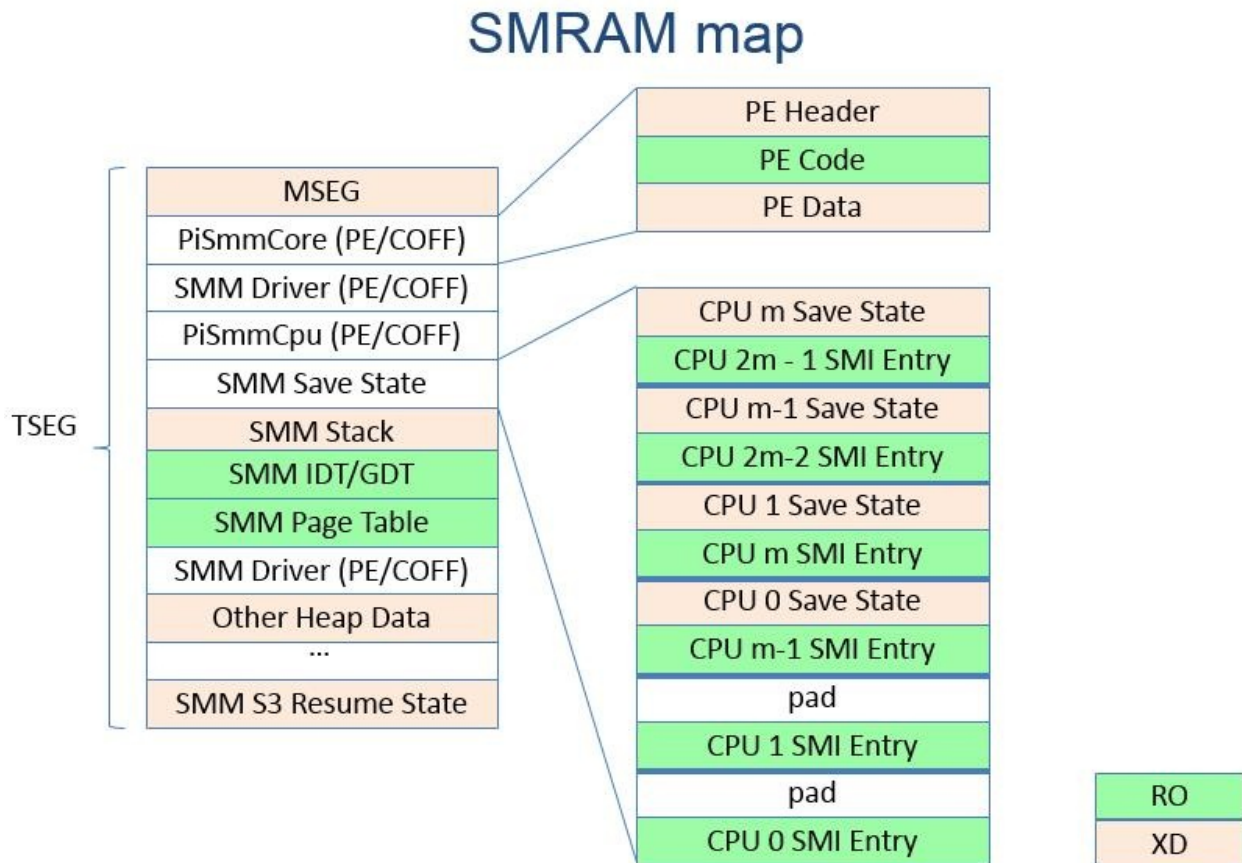

Figure 1 - SMRAM memory protection
Figure 1 - SMRAM memory protection
The SMM is an isolated execution environment according to Intel(R) 64 and IA-32 Architectures Software Developer's Manual [IA32SDM]. The UEFI Platform Initialization [PI] specification volume 4 defines the SMM infrastructure. Figure 1 shows the SMM memory protection. **RO** designates read-only memory. **XD** designates execution-disabled memory.
In UEFI/PI firmware, the SMM image is a normal PE/COFF image loaded by the SmmCore. If a given section of the SMM image is page aligned, it may be protected according to the section attributes, such as read-only for the code and non-executable for data. See the top right of Figure 1.